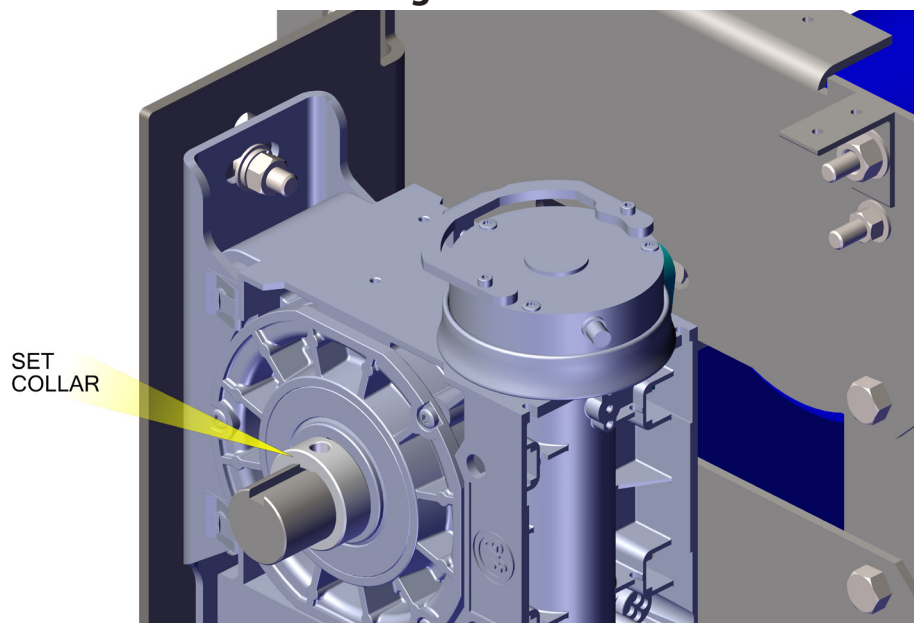

Figure 13
- Slide the set collar onto the shaft up against the motor. Tighten set screw in the set collar, as shown in **Figure 13**.